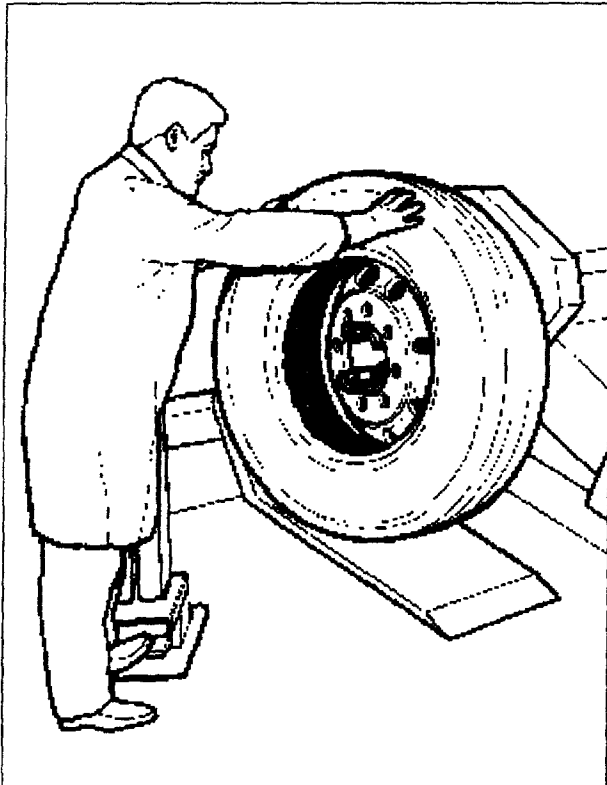

Fig.23
8. Move to the front of the tyre and hold it with both hands in the last part of demounting operation to prevent the tyre from falling or rolling away out of control (Fig.23).